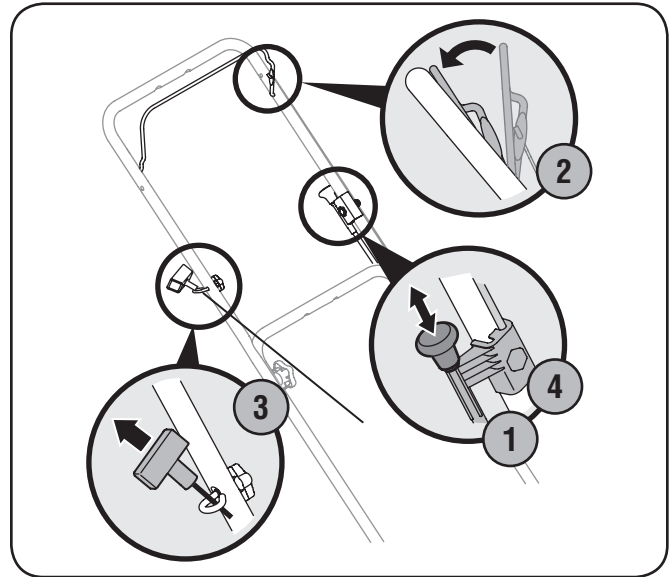

Figure 5-1
1. Pull out the choke knob located on the left side of the upper handle. See Figure 5-1.
3. Pull the recoil starter lightly until resistance is felt, then pull rapidly to overcome compression, prevent kickback, and start the engine. See Figure 5-1. If engine does not start after ten seconds of repeated pulls, wait a few minutes and repeat.